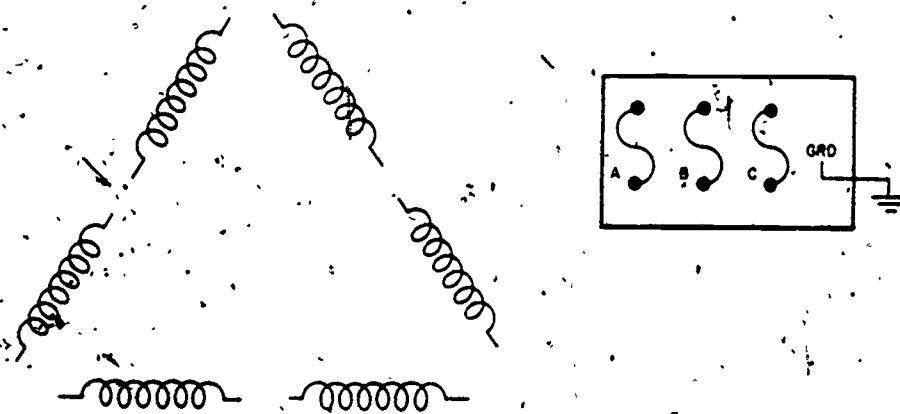

Figure 5. 440-Volt Circuit Diagram
3. Complete the schematic diagram in figure 5 by numbering the motor windings and drawing in the necessary connections and conductors for applying 440-volt power to the motor for high voltage.